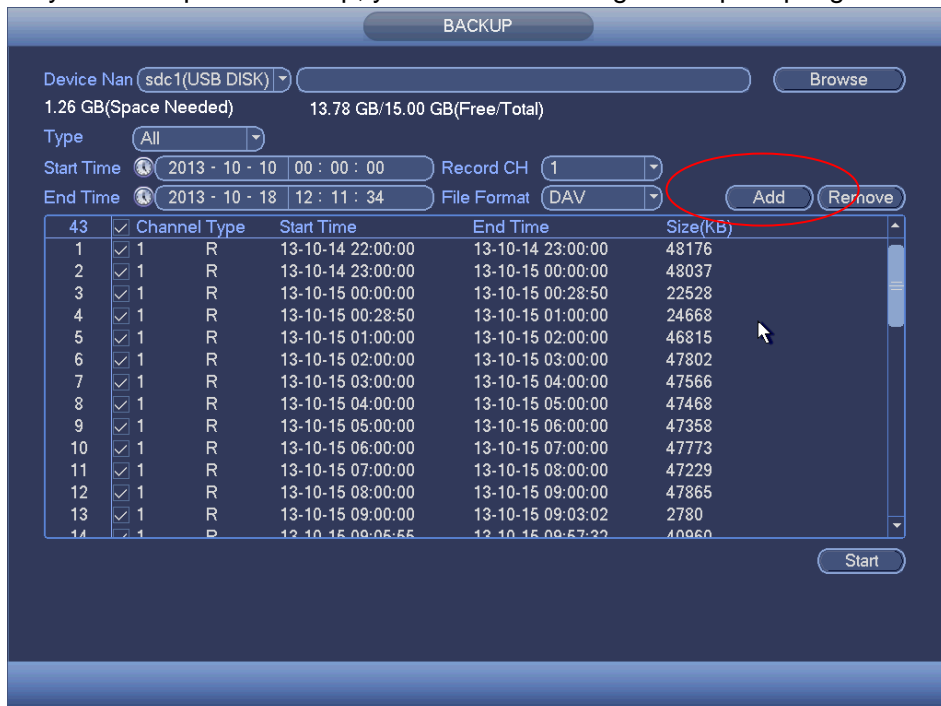

Figure 4-82
- d) Click add button, system begins search. All matched files are listed below. System automatically calculates the capacity needed and remained. See Figure 4-82.